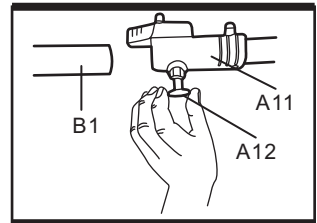

Fig. 3b
b) Pull out the locking pin (A12) and insert the shaft (B1) into the clamp (A11). Release the locking pin and ensure it engages in the hole. (See Fig. 3b)